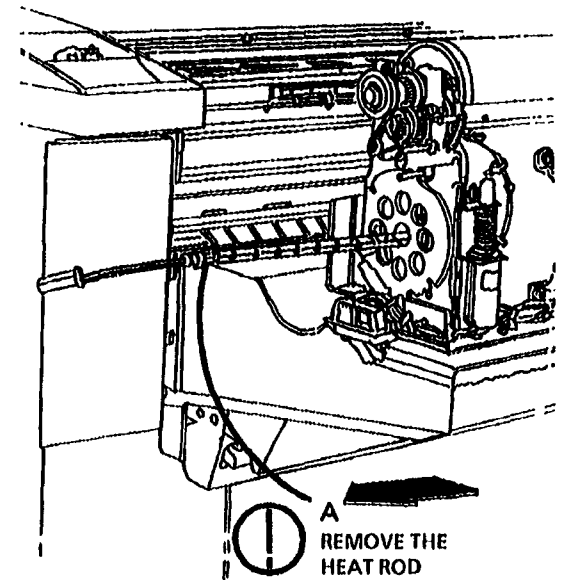

Figure 4. Remove the Fuser Heat Rod
10. (Figure 4): Remove the Fuser Heat Rod.